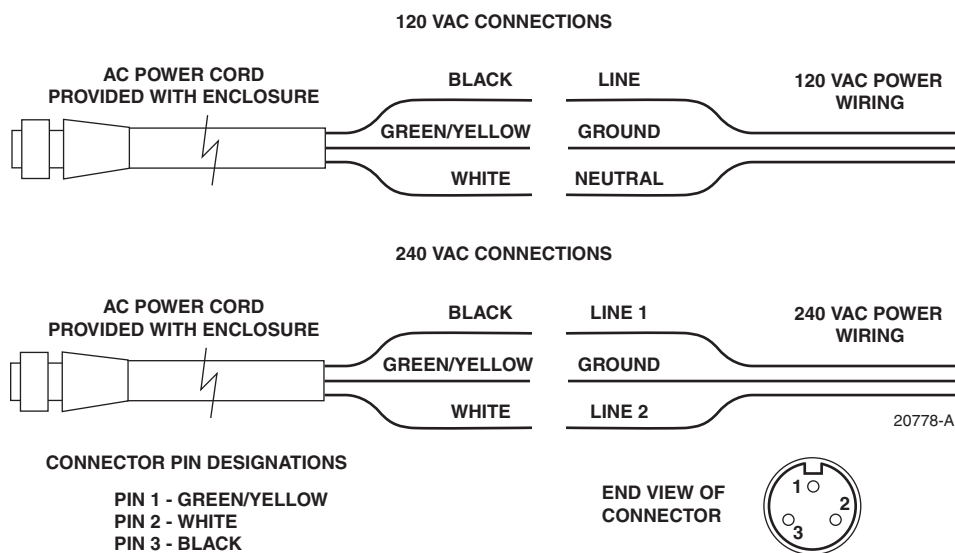

Figure 4-6: AC Power Cable Connections
- 5 Connect the AC power cable wires to the AC power supply wires. Refer to Figure 4-6 to identify the color code and wire designations.